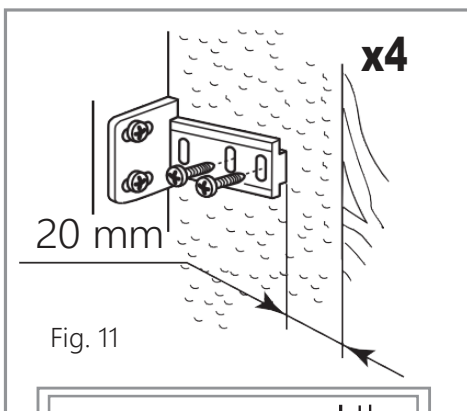

Fig. 11
- Locate the slider in the bracket and fix the slider to the fascia door 20 to 22mm from the edge of the fascia as shown in Fig. 11, ensuring that the slider is positioned centrally and horizontally within the bracket. Tighten securely by hand.